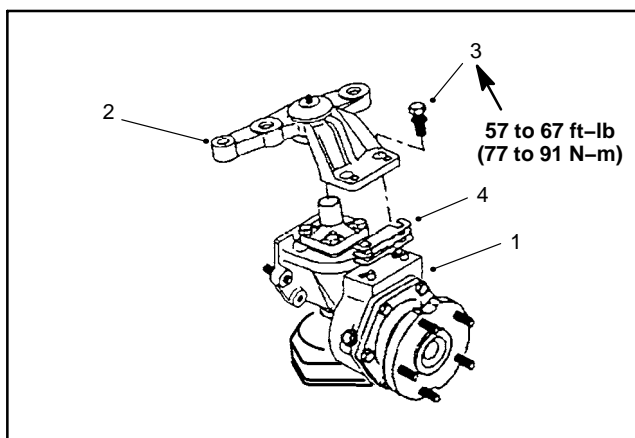

Figure 14
4. Remove the axle case support mounting screws, the axle case support, and the support shims (Fig. 14).